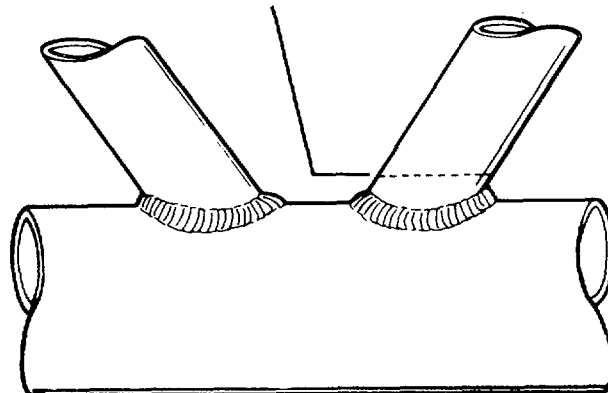

Figure 14-7. Cutting Off Damaged Tubular Lacings
2. Tubular lacings to be replaced should be cut off mechanically, preferably with a hacksaw directly above the fillet weld attaching it to the chord, leaving the original weld on the chord member. Grind or file the remaining weld bead flush with the chord, using extreme care not to notch the chord or nick it in anyway. See Figure 14-7. Lacings maybe removed from the heavier booms by careful use of the arc air torch, slightly above the attaching fillet weld, again using extreme care not to damage the chord member in anyway.
1. Cut the lacing to be replaced off about 1/4 inch (6 mm) above the weld, using a hacksaw, carbon arc torch, or disc grinder. See Figure 14-7 and 14-14.